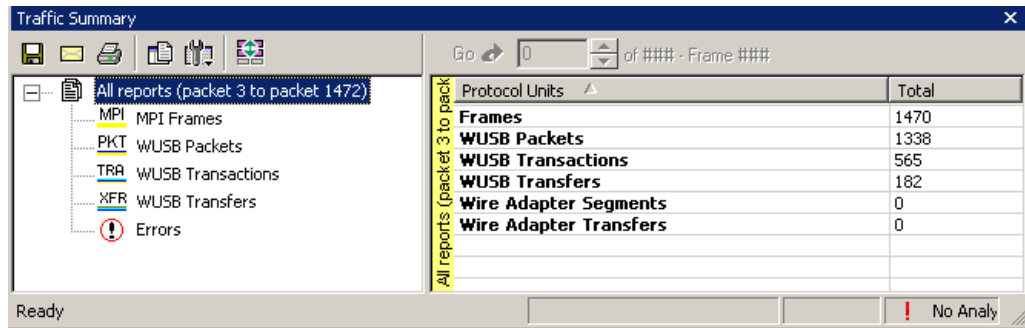

Figure 9.9 Selecting Traffic Summary Range
- Step 3** Click the **Select Range** button on the Traffic Summary tool bar (Figure 9.9).